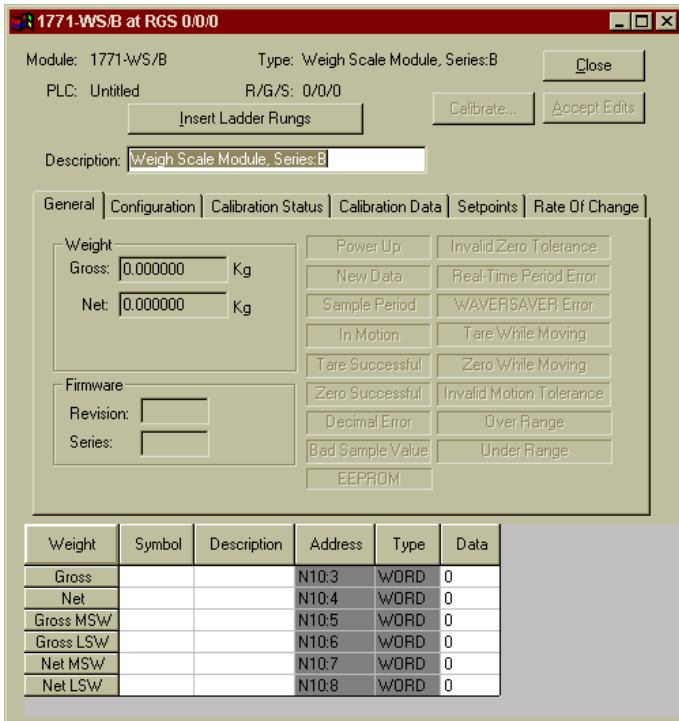

FIG. 4-19 HI 1771-WS MODULE MAIN MENU
- Step 12. Click on the Done button to accept the address entries. The HI 1771-WS Weigh Scale Module Main Menu appears. (See Fig. 4-19)